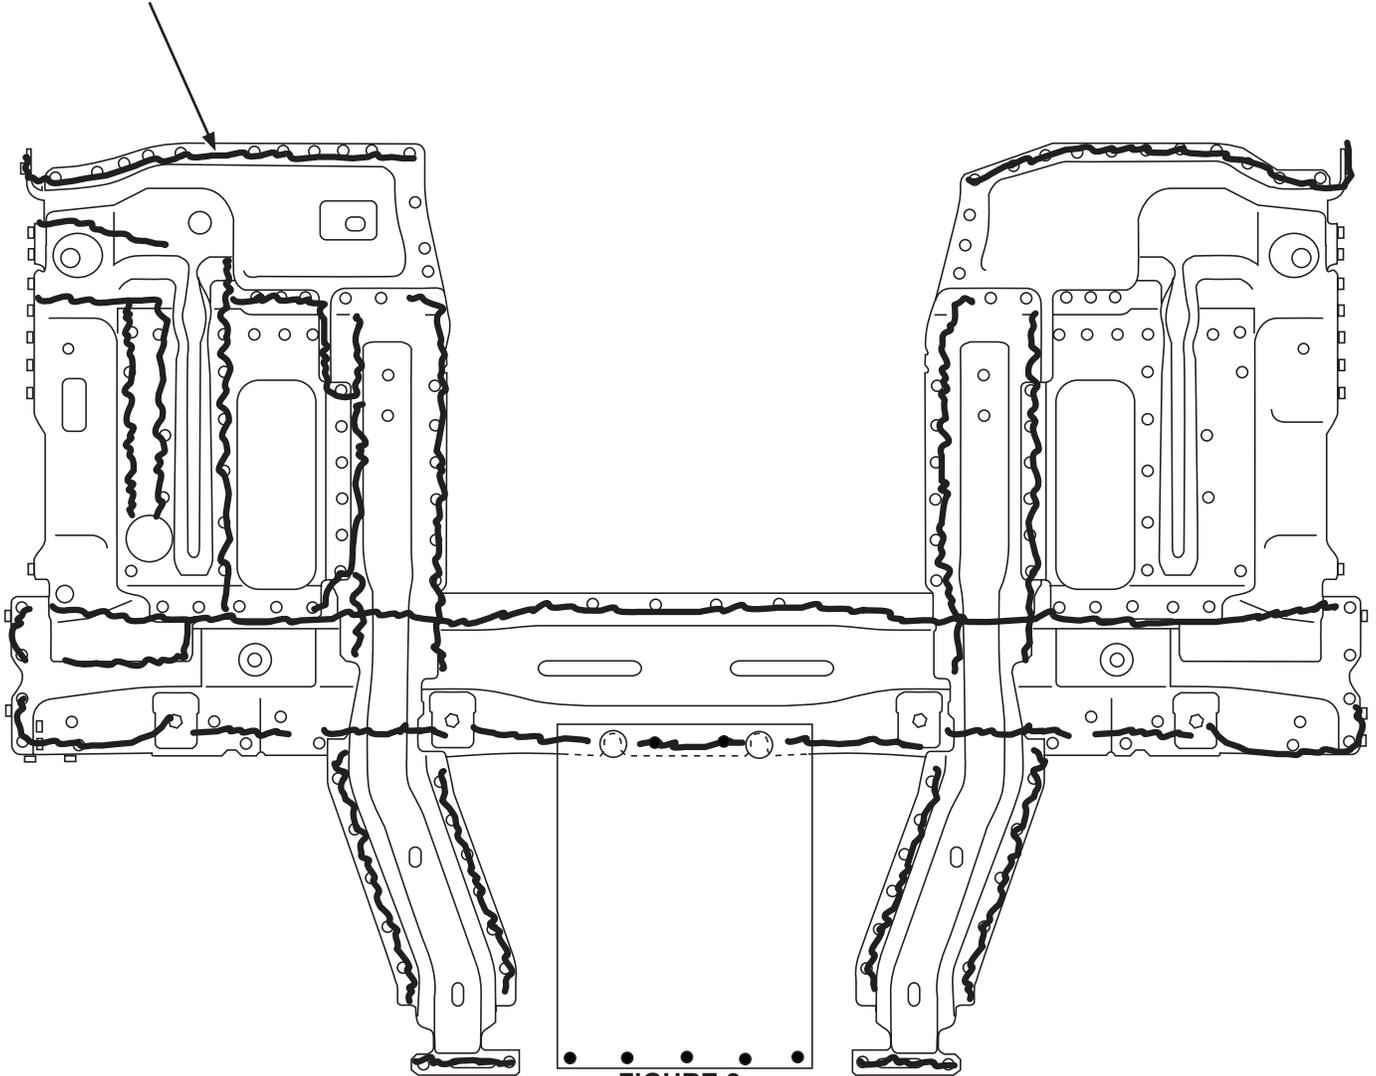

FIGURE 2
- (Refer to Figure 2) for location for adhesive material.
**NOTE:** The location of SPR and adhesive shown below are based on the original production drawings and should only be used as a guideline. (Refer to Figure 2).